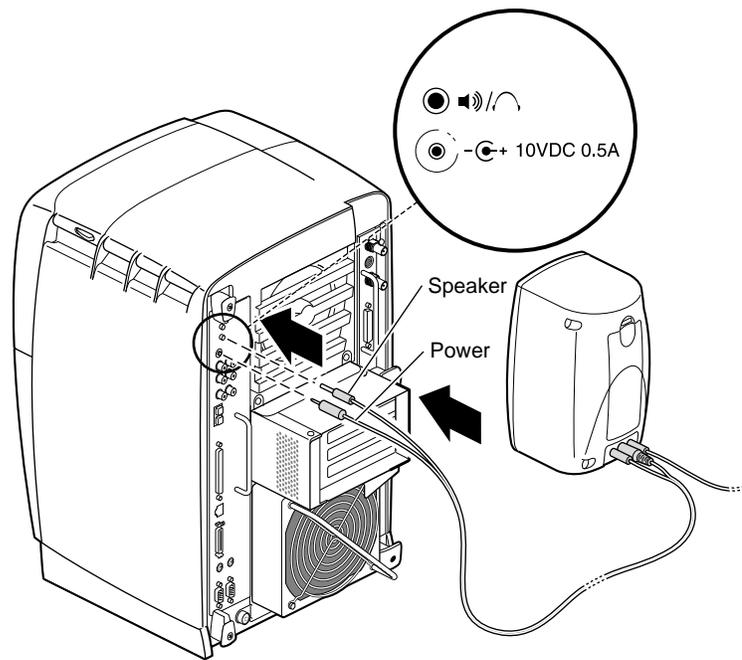

Figure 1-9 Connecting the Speaker and Power Cables
6. Connect the active speaker to your workstation, using the cable with two male connectors on the end, as shown in Figure 1-9.